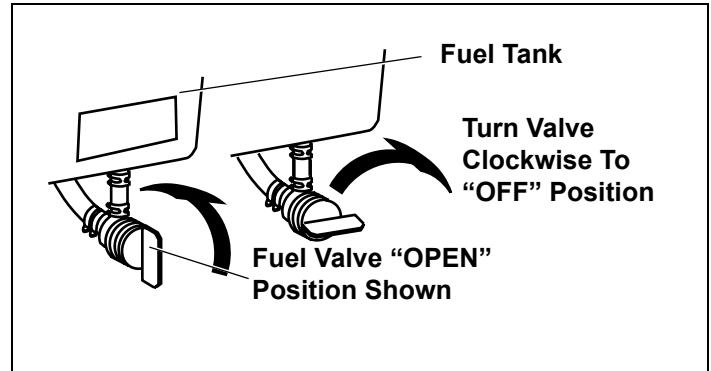

Figure 19. Fuel Valve Positions
2. Be sure fuel valve, if present (see equipment manufacturer's instructions) is open and all switches are on. See Figure 19.